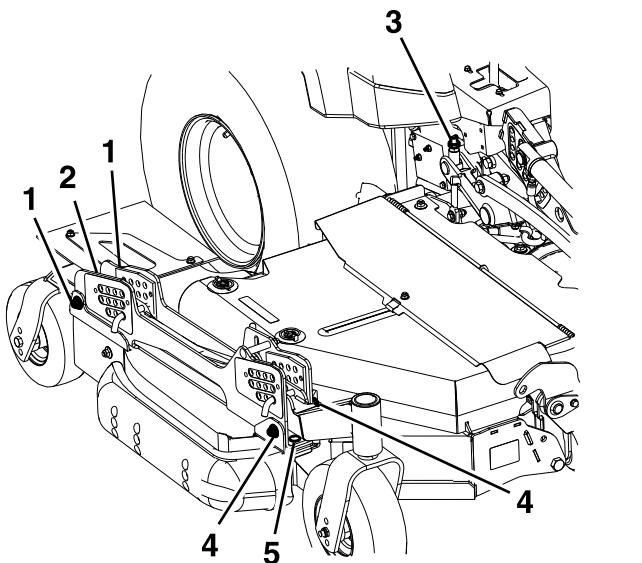

Figure 84
- The left and right wing decks have blade height adjustments with front and rear adjustment points. To adjust the wing-blade height, first loosen the front and rear height-of-cut hanger mounting nuts. There are 4 locations (2 on each side of the channel) as shown in Figure 84.
- If the deck is too low, tighten the front height-adjustment bolt (Figure 84) by rotating the bottom nut clockwise.
- If the deck is too high, loosen the front height-adjustment bolt (Figure 84) by rotating the bottom nut counterclockwise. Fine-tune the rear adjusters as required.
Adjust the rear wheel height (Figure 84) so that the rear wheel lightly touches the ground with minimal pressure.
4. Measure the back of the wing blades. If either has less than 1.5 mm (1/16 inch) rake, raise the rear of the deck by tightening the left and right rear adjustments (Figure 84) until all 4 blades have a minimum of 1.5 mm (1/16 inch) rake. Adjust the rear wing wheels so that they lightly touch the ground with minimal pressure. Tighten all 4 rear hanger-mount locations (Figure 84).